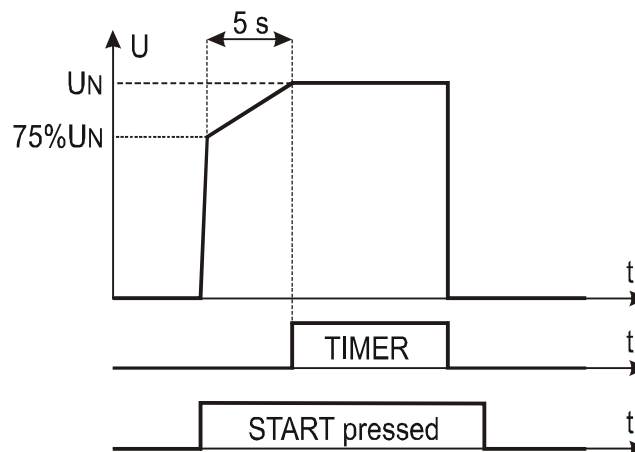

Fig. 37 : DIELECTRIC test in 75% Ramp mode
- **75% Ramp** mode (**single ramp**) → When the **START/STOP** key is pressed, the test voltage rises up to 75% of the nominal voltage then it takes 5s to reach the nominal value. It is subsequently maintained for a time defined by a programmable timer (see Fig. 37)